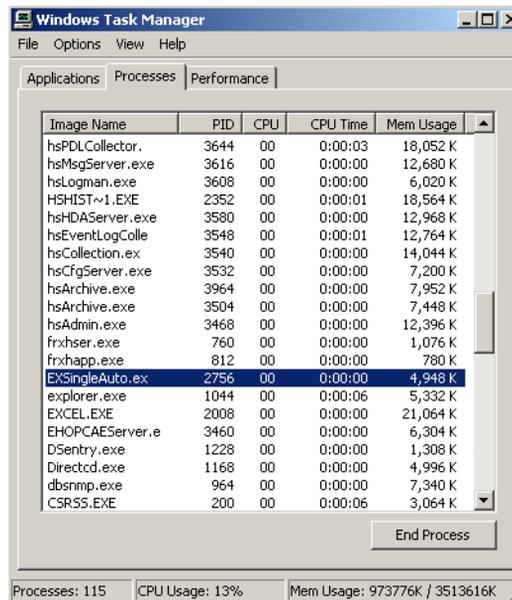

Figure 103. Terminating the EXSingleAuto and EXCEL Processes
1. Use the Windows Task Manager to terminate the **EXSingleAuto.exe** and **EXCEL.EXE** processes, Figure 103. Multiple instances of the EXCEL.EXE process indicates there are multiple instances of the report in the scheduling queue. In this case you may want to disable the scheduling definition to prevent further report instances from queuing.